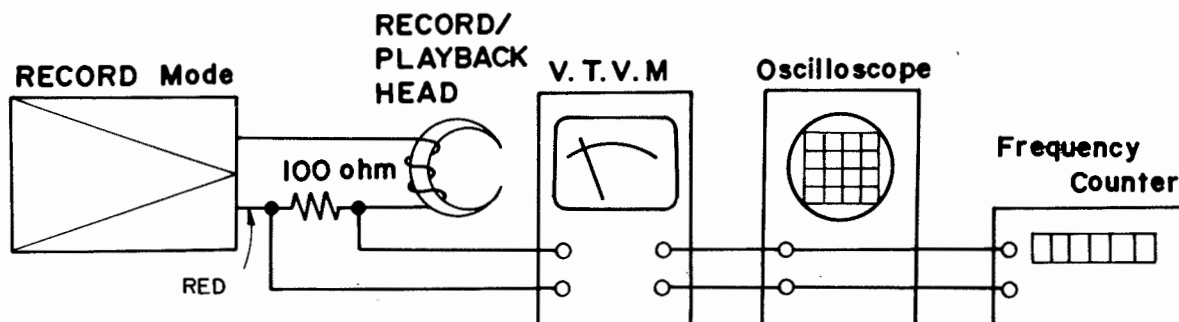

Figure 11
### RECORD AMPLIFIER BIAS OSCILLATOR ADJUSTMENT (Refer to Figure 11)
- 1) As shown in Fig. 11, connect the resistor of 100 ohm ( $1/4W$ ,  $\pm 5\%$ ) in between the record/playback head terminal and the lead wire (Red) and then connect the V.T.V.M. to the both sides.